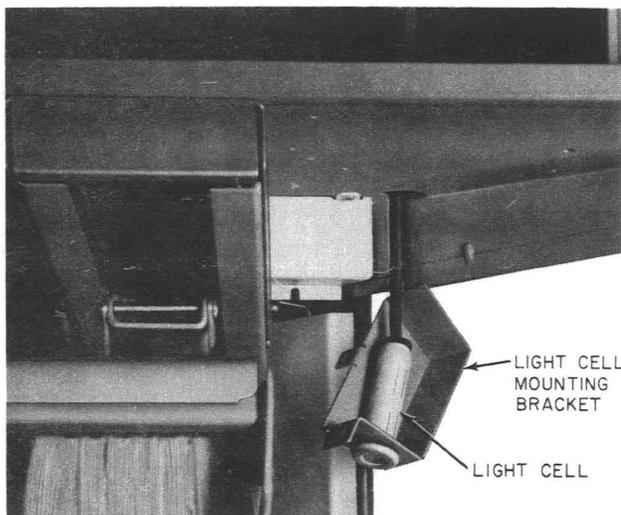

Fig. 20—Installation of Light Cell in Mounting Bracket
- (h) Install the light cell in the light cell mounting bracket as shown in Fig. 20.